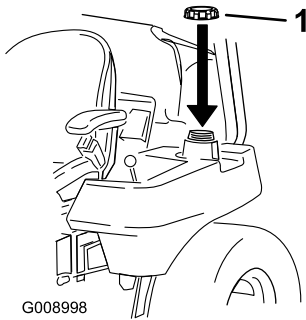

Figure 15
6. Remove both existing fuel caps and replace them with the new fuel caps (Figure 15).